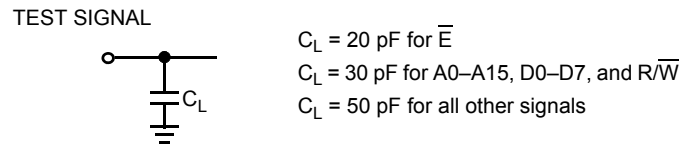

Figure 2. Signal Loading for Timing Specifications Unless Otherwise Specified
15. The three-state condition is when the device is not actively driving data. Refer to *Figure 2* and *Figure 5* for detailed measurement information.